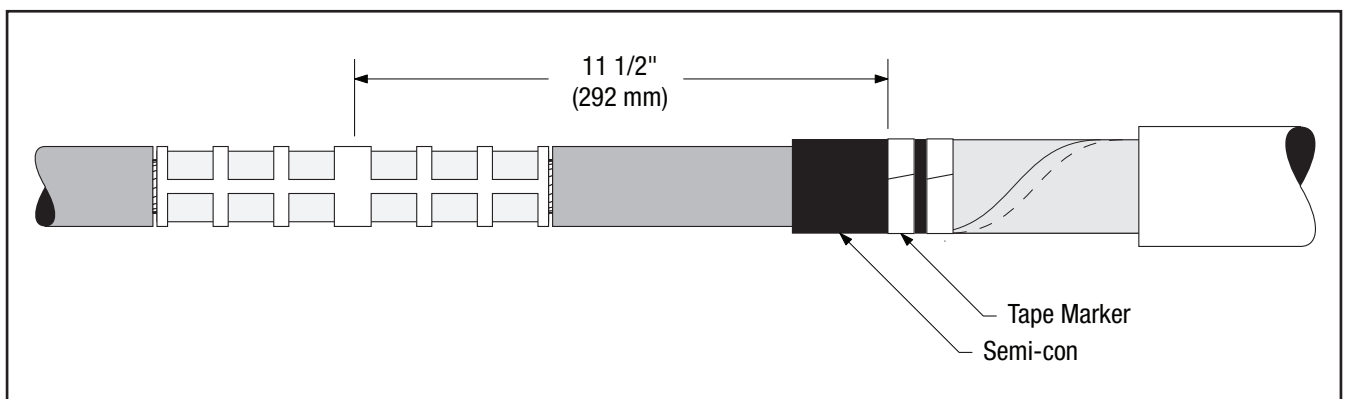

Figure 10
- 4.1 Apply a tape marker to semi-con insulation shield on cable which does not contain splice. Measure 11 1/2" (292 mm) from center of connector (*Figure 10*).